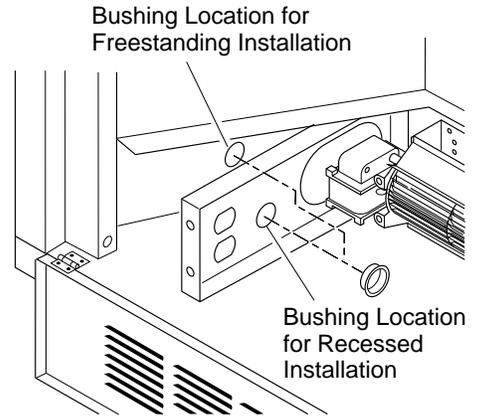

Figure 13 - Installing Bushings
**If your fireplace system is installed as a freestanding unit with an accessory mantel,** install one plastic bushing (provided) into the 1.5" hole in the lower left side of the outer casing (see Figure 13). Route power cord through plastic bushing. Plug the power cord into a properly grounded three-prong wall receptacle near the firebox.
**If your fireplace system installation is recessed,** install one plastic bushing provided into the 1.5" hole near the middle of the left floor support bracket (see Figure 13). Route power cord through plastic bushing. Plug the power cord into a properly installed duplex outlet. (If an outlet is not available, the accessory model GA3555 Outlet Kit with cover can be installed in your fireplace. This will supply a convenient three-prong grounded electrical outlet for your blower. Refer to the installation manual provided with the model GA3555 accessory for instructions on wiring the duplex outlet.)